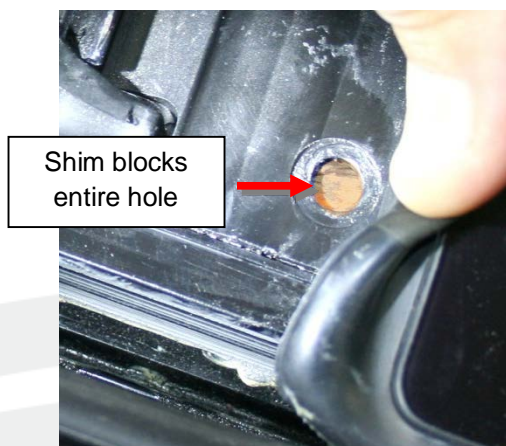

Figure 35 (View of left front hole from above)
10. Push the shim outboard and rearward until it entirely blocks the hole for the front screw that secures the B-Pillar bracket, panoramic roof track, and B-Pillar crossmember (Figure 35).